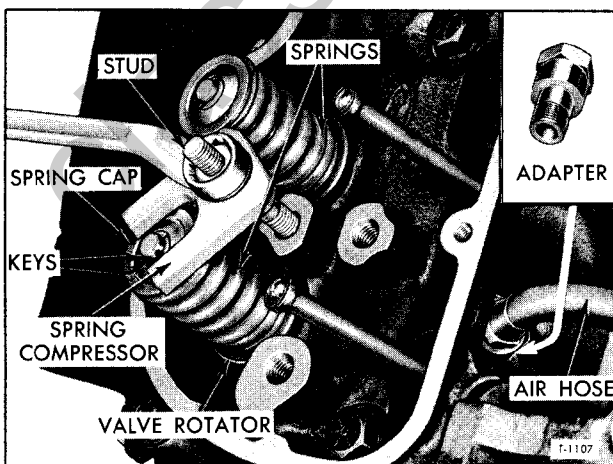

Figure 9—Use of Special Tool for Replacing Valve Spring without Removing Cylinder Head
5. Assemble spring compressor (J-21544) and nut on stud as shown in figure 9, then with wrench, turn nut to force compressor down against valve spring cap meanwhile striking spring cap
6. If valve rotator is replaced, be sure to position rotator on cylinder head with spring pilot on top. Set valve spring on rotator with close-wound coils toward cylinder head. Place spring cap on spring and use compressor in same manner as shown in figure 9 to compress valve spring. On intake valves, install new oil seal in lower groove in valve stem. Insert two keys in valve stem grooves, then back off stud nut to release pressure on valve spring. Be sure keys engage groove in valve stem. Remove compressor, stud, and nut from cylinder head.